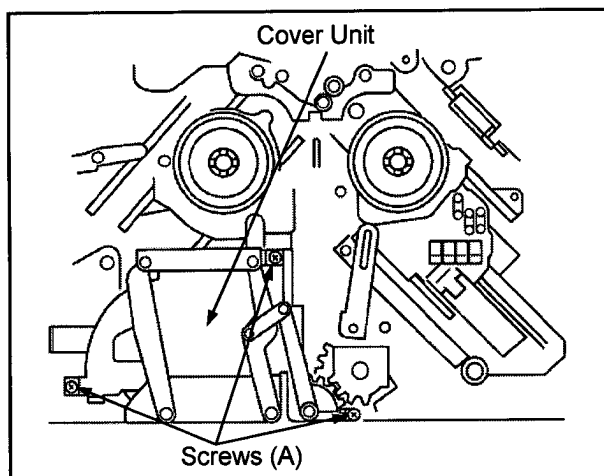

Fig.4-21-1
1. Remove the connector P16 on the Mech. I/F Board. (Fig.4-21-1)
2. Unscrew the 3 screws A, and remove the cover unit (Fig.4-21-1)
3. Unscrew the 2 screws B, and remove the reel motor unit. (Fig.4-21-1)